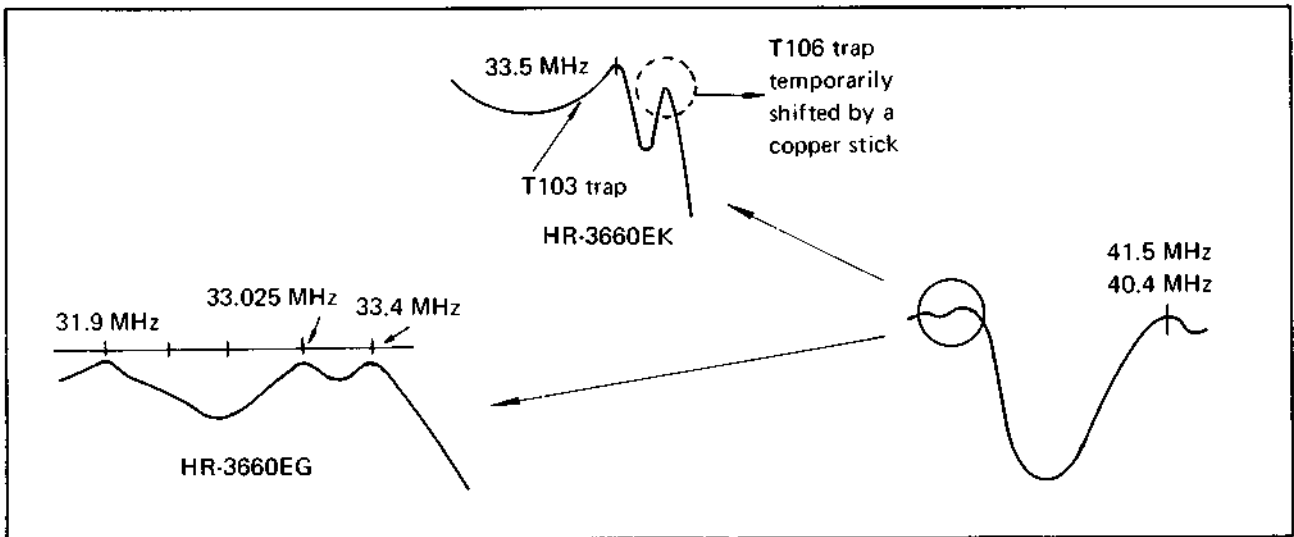

Fig. 5-47
- Adjust the core of T103 to tune the sound trap to the 33.5 MHz (HR-3660EK), 33.025 MHz (HR-3660EG) marker. At this time, insert a thin copper stick into T106 to shift the dip caused by T106. So, T103 adjustment could be more precisely performed as shown in Fig. 5-47.